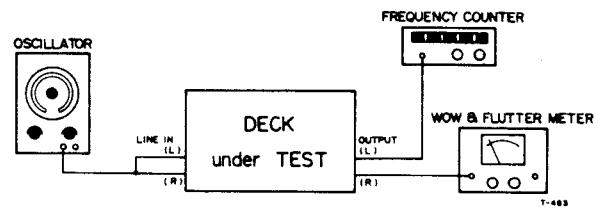

Fig. 2-9
- Connect a frequency counter to either OUTPUT jack. (See Fig. 2-9).
- Connect a wow-and-flutter meter to the deck as shown in Fig. 2-9.